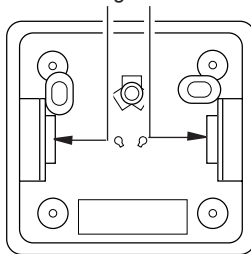

Figure 23 - Back View of Thermostat Base
5. Feed electrical wires through rectangular slots on each side of base (see Figure 23).